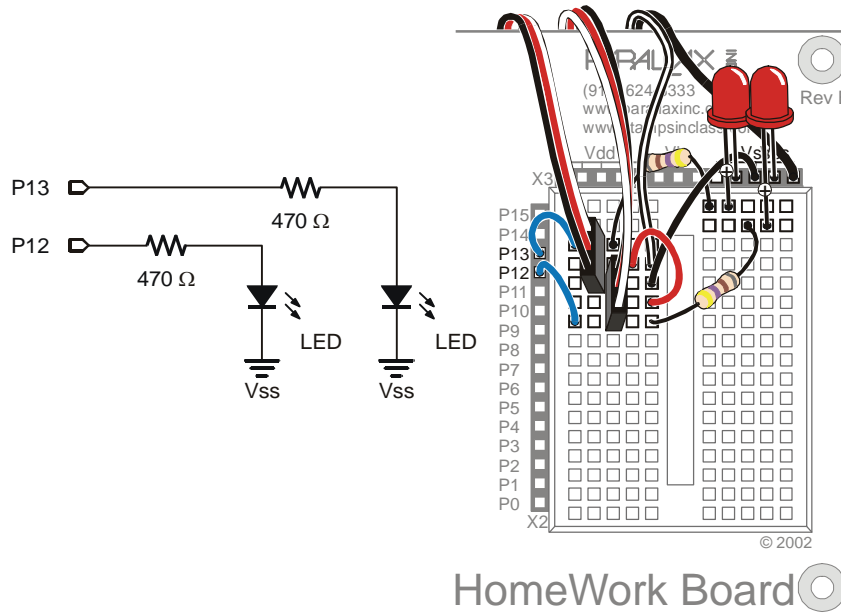

Figure 2-20
- ✓ Rebuild the LED circuit as shown in Figure 2-20.